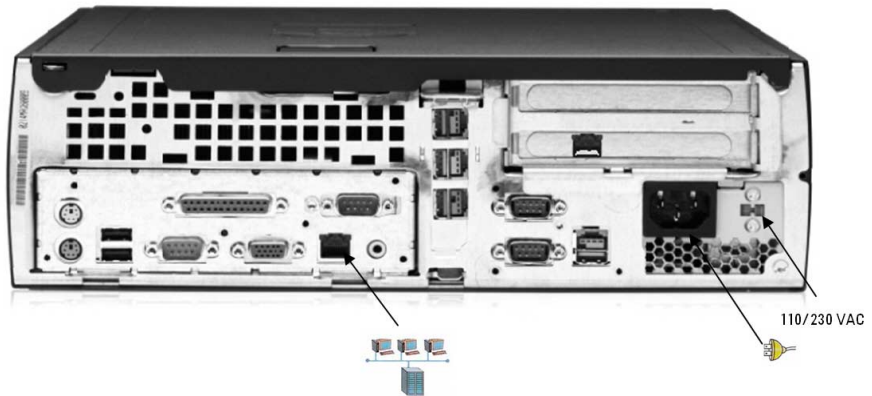

Figure 1. AIC 5000 Connections
6. Connect one end of the supplied network crossover cable (Part Number G4690-60000) to the computer and the other end to the AIC network port shown in Figure 1. Be sure to use the network port indicated in Figure 1 – The PCI network interface card installed in the AIC 5000 is reserved exclusively for connecting instruments to the unit.
7. Verify that the 115V/220V voltage selector is set correctly for your location. (See Figure 1.)
8. Connect the AIC 5000 to a properly grounded AC outlet using the supplied power cable. (See Figure 1.)